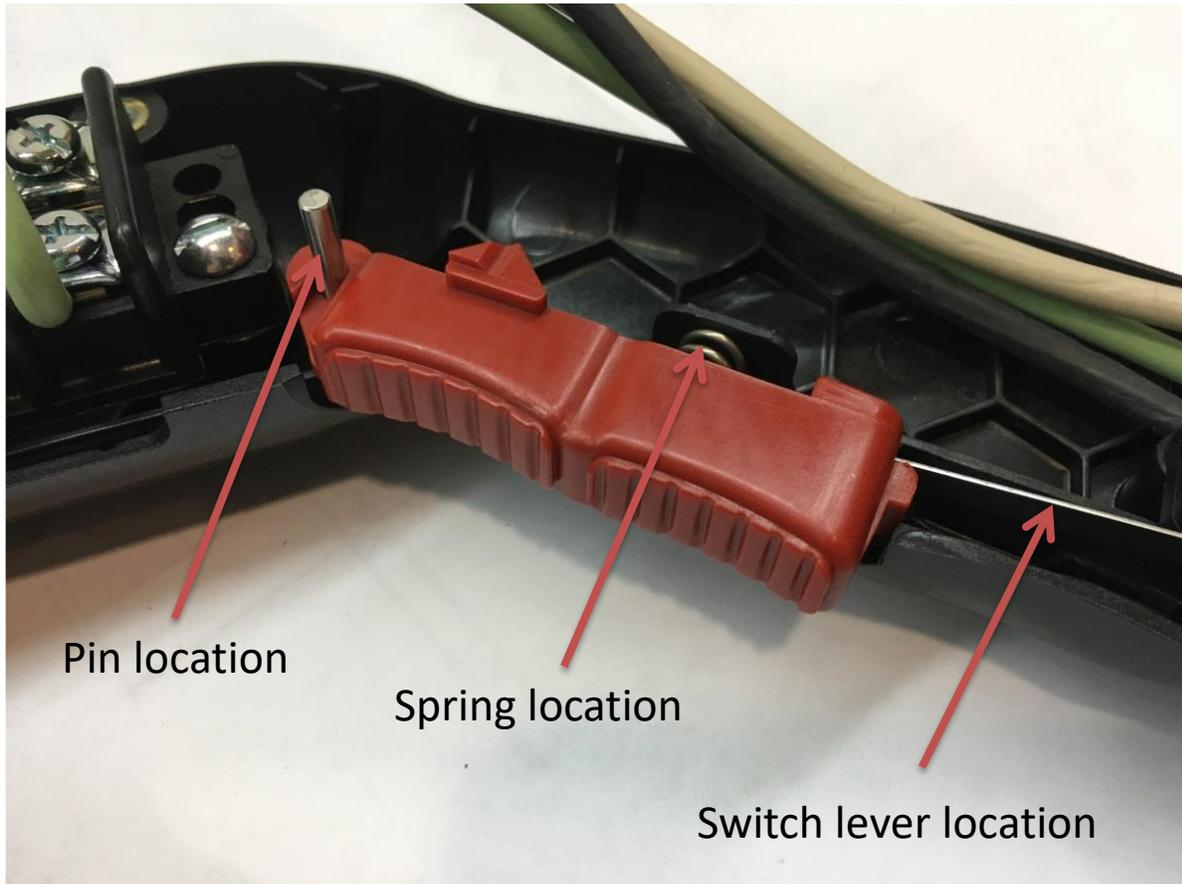

Fig.6-20 Actuator / Trigger Assembly
2. Remove (2) #4-40 x 1/2" pan head screws from switch, then remove switch from handle.
3. See Fig.6-19 Actuator Spring Location and Fig.6-20 Actuator / Trigger Assembly for proper assembly of actuator to switch.
4. Replace switch and install (2) #4-40 x 1/2" screws and tighten.
2. Remove (2) #10-32 x 5/8" round head machine screw from terminal block then remove terminal block from handle.
3. Replace terminal block and install (2) #10-32 x 5/8" screws and tighten.
4. Follow steps 10-12 from 6.22.1 above. If actuator, pin, and spring need to be reinstalled see Fig.6-19 Actuator Spring Location and Fig.6-20 Actuator / Trigger Assembly.